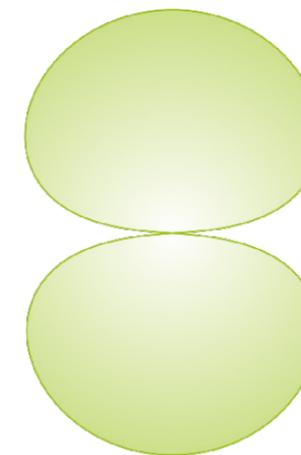

Figure-8
Omni, wide cardioid, cardioid, supercardioid, figure-8, reverse wide cardioid, reverse cardioid, reverse supercardioid.
The omni pattern has the same sensitivity to sound pressure coming from any direction. An omni pattern provides the best bass response, flattest frequency response, and is the least sensitive to handling or wind noise in comparison to all other polar patterns. It will shine in good sounding rooms and time-based stereo recordings. It picks up very high frequencies with more directivity leading to higher side rejection of the signal for these frequencies (this effect turns the omni into figure-8 at the 16 kHz mark). In most live situations where the picked-up signal is monitored and played back through the PA, feedback can be an issue.
// Figure-8
The figure-8 pattern has the same sensitivity at 0° and 180°, it is the least sensitive at 90° and 270°. It is often chosen for various stereo recording techniques (Mid Side, Blumlein). It can also be very helpful in situations where you do not want a signal coming from a 90° angle to bleed into the microphone. It has the highest side rejection of all polar patterns making it very useful to deal with signals bleeding into the microphone coming from the side. In live recording situations you can achieve fairly dry recordings although many instruments are recorded in the same room at the same time. In comparison to all other polar patterns it has the least bass response and it is the most sensitive to wind and handling noise.
- Figure-8
- **Figure-8**